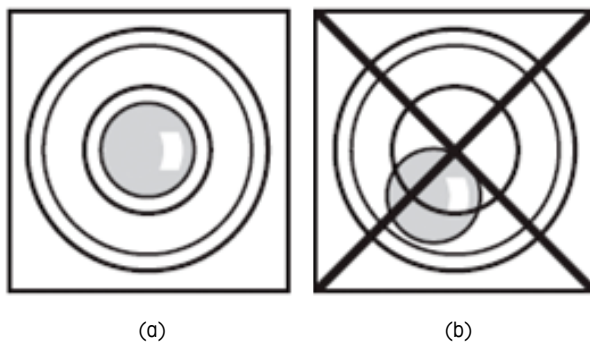

Figure 3-1: Refer to leveling bubble for correct horizontal position of the weigh module
- Leveling bubble (See Figure 3-1) is available as an accessory or integrated in some weigh module types to check the inclination of the weigh module at any time.